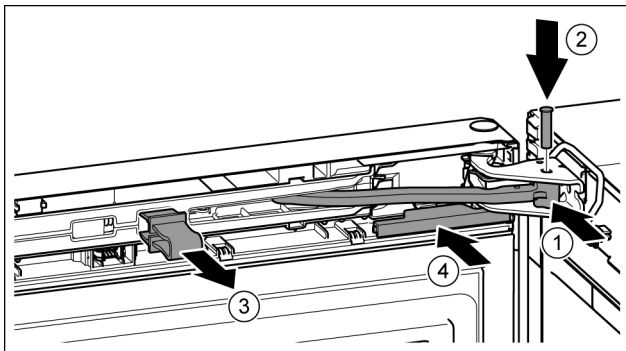

Fig. 49
- ▶ Turn the hinge in the bearing bracket. Fig. 49 (1)
- ▶ Insert the bolt in the bearing bracket and hinge. Make sure that the catch mechanism is sitting correctly in the groove. Fig. 49 (2)
- ▶ Remove the locking device. Fig. 49 (3)
- ▶ Slide on the cover. Fig. 49 (4)